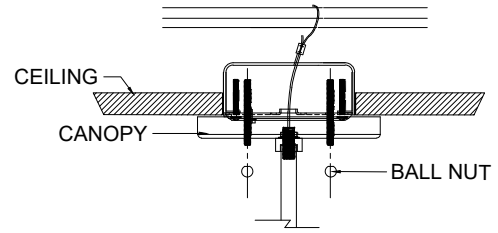

FIGURE-02
- 8. Lift the fixture and the canopy up and secure it with ball nuts. (See FIGURE-02)